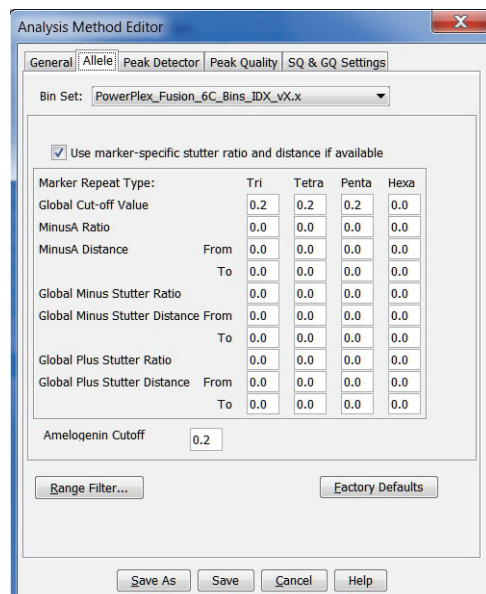

Figure 29. The GeneMapper® ID-X 'Allele' tab with settings for using a 20% peak filter.
6. Select the 'Allele' tab (Figure 29).
8. Ensure that the "Use marker-specific stutter ratio and distance if available" box is checked. Doing this will assign locus-specific stutter files and distances from the imported stutter file. Ensure that the appropriate global filter is applied to this analysis method. For example, for a 20% filter, enter "0.20" for the Global Cut-off Value for Tri, Tetra and Penta repeats (Figure 29).